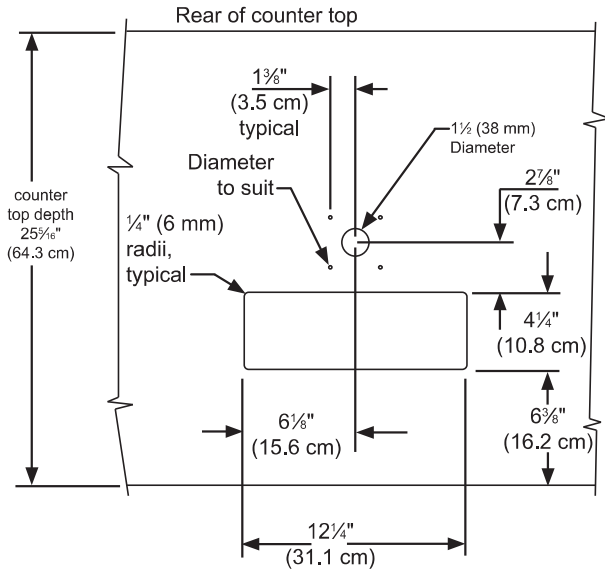

Figure 33
The cutout dimensions shown in Figure 33 are based on a $25\frac{5}{16}$ " (64.3 cm) deep counter top. Your counter top may be different than this and require other front to back dimensioning. Refer to the product dimensions on pages 8 and 9 when determining the required dimensions.
4. If you are installing your keg refrigerator under a counter you will need to drill 5 holes in the counter top to mount the tower. The first hole is a $1\frac{1}{2}$ " diameter hole located at the center of the tower for the beer line, locate approximately $13\frac{1}{2}$ " (34.3 cm) from the front edge of the counter top (based on a counter top depth of $25\frac{5}{16}$ "). Next drill the 4 tower mounting holes per the dimensions in Figure 33. The hole diameter is dependent on the counter top material and if screw anchors are required. The screws supplied are in the literature pack and are a #10 x 1" type AB stainless steel screw. Mark and cut the rectangular cutout for the drain sump. After the holes are drilled and the keg refrigerator is in place under the counter top feed the beer line through the tower gasket, the $1\frac{1}{2}$ " hole in the counter top and the hole in the top of the keg refrigerator. Mount the tower to the counter top with the 4 screws provided. Place the counter top drain sump, from the literature pack, in the rectangular hole with the radius cutout to the rear around the tower and place the grate in the sump.